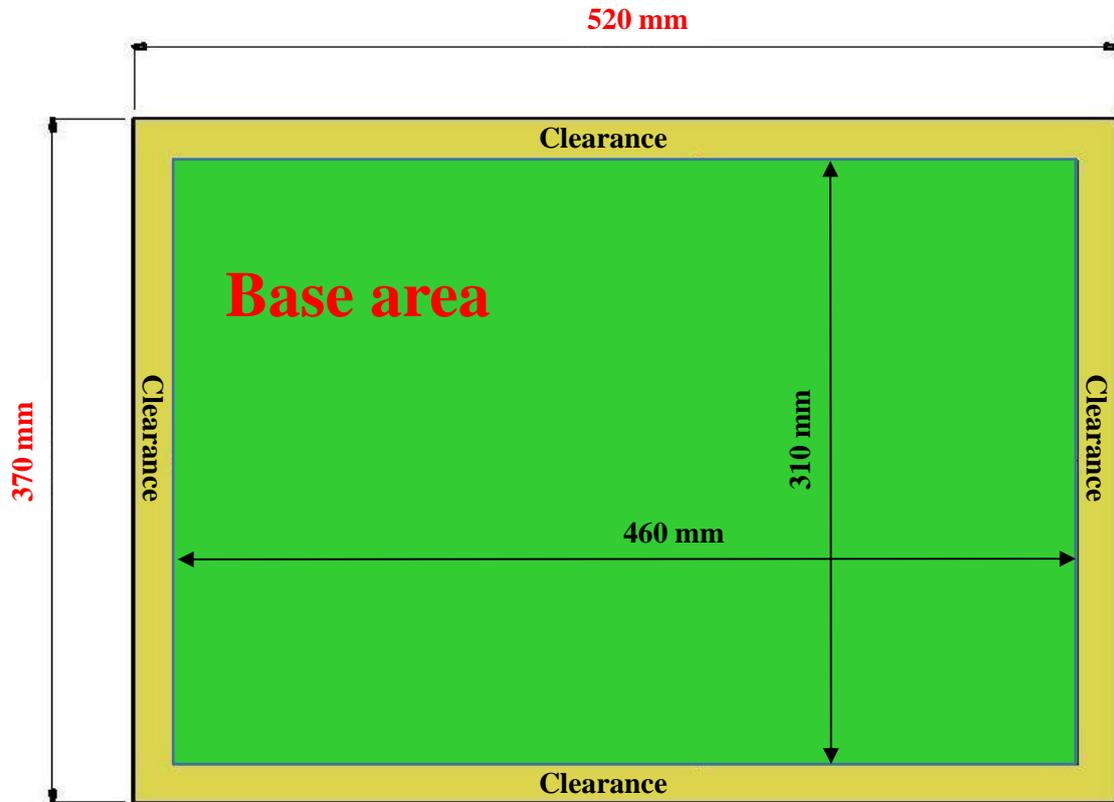

Figure 1: Top view of the MDF base board
- The model building must be constructed on a wooden board with a dimension of 370 mm (W) × 520 mm (L) × 6 mm (H), while the base area of the model building is limited to 310 mm (W) × 460 mm (L). IDEERS will provide a medium-density fiberboard (MDF) as the base wooden board. The baseboard should have a 30-mm clearance left at the four edges so that the model building can be fixed on the shaking table (Figures 1 and 2). The model building can be in any shape, but the fabrication area of the building is restricted to meet the IDEERS requirement.